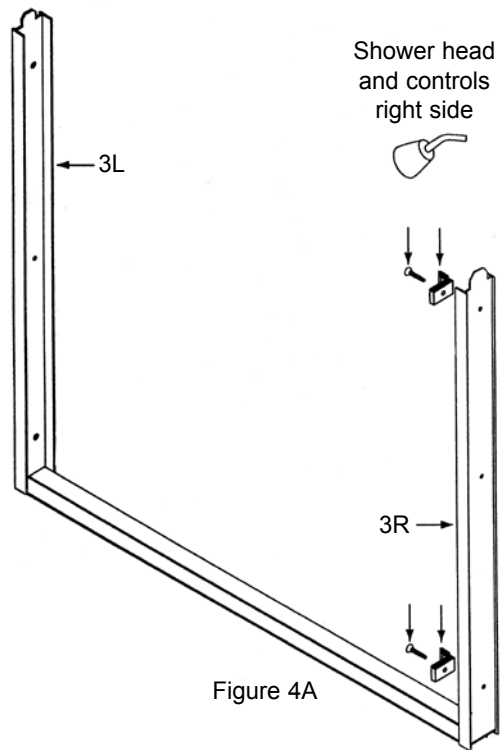

Figure 4A
- A. See Figures 4A and 4B to position the Panel Locator (#7). If the shower head is on the right wall, refer to Figure 4A to position the Panel Locator (#7). If the shower head is on the left, refer to Figure 4B. Secure with a #8 x 1-1/2" FH SMS Screw (#15).